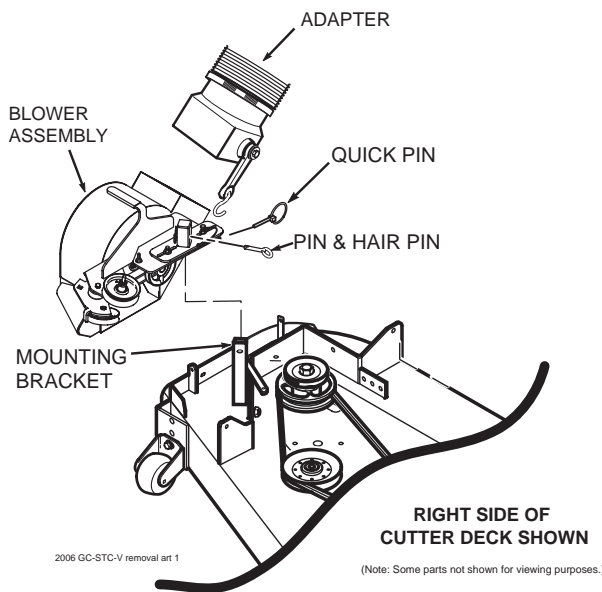

Figure 4-1
3. Remove the rubber strap holding the adapter to the blower assembly. See Figure 4-1.
5. Remove the mounting pin, hair pin and quick pin securing the blower assembly to the cutter deck and remove the blower assembly. See Figure 4-1.